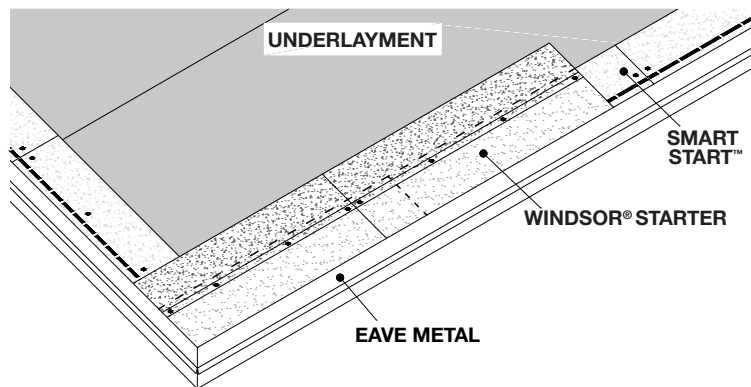

Figure 5 - Application of Windsor® Starter Shingles over Smart Start™ at the Eave Edge of Roof
Fasten with four (4) nails in-between the paint lines, approximately 1" (25 mm) from each side of the starter and the remaining two (2) evenly spaced on the same line. Continue across the roof, butting the shingles loosely together to prevent buckling, and fasten in place. (See Figure 5)